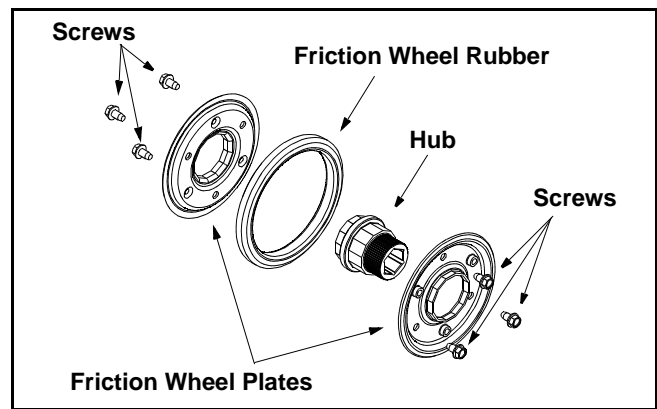

Figure 22
- Remove the six screws from the friction wheel assembly (three from each side). Remove the friction wheel rubber from between the friction wheel plates. See Figure 22.